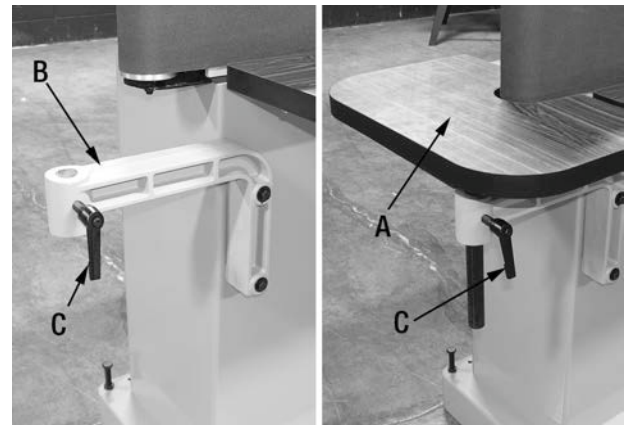

FIGURE 6
- 1) Locate the end table (A) Fig.6 inside the enclosed cabinet.
- 2) The end table support (B) needs to be unbolted and reinstalled to the cabinet as shown in Fig.6 using the same hardware.
- 3) Slide the end table shaft into the end table support, secure the end table using the lock handle (C).
- 4) To adjust the height of the end table, loosen lock handle (C) and position the end table to the desired height, retighten lock handle.